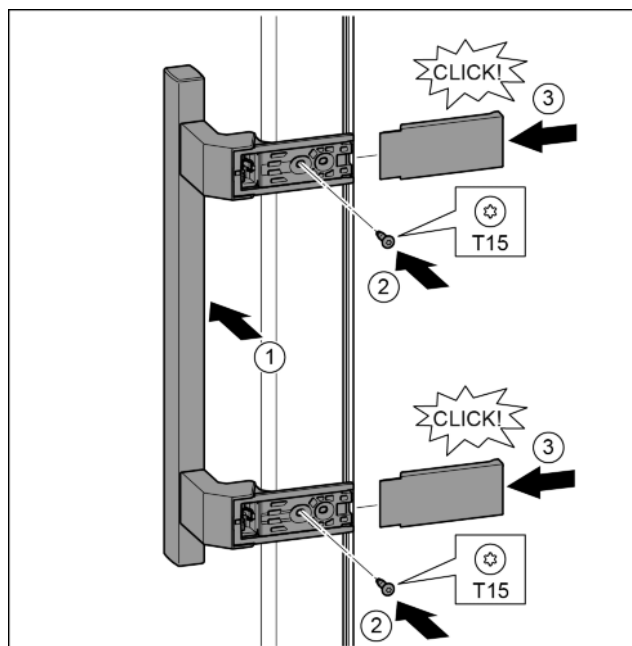

Fig. 19
- Position the handle on the other side. Fig. 19 (1)
- Tighten the screws with the T15 screwdriver. Fig. 19 (2)
- Position the covers on the side and push in. Fig. 19 (3)